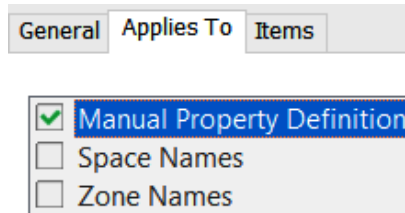

Figure 10.20 – List Definitions | Applies To tab
- With the new **Construction Sequencing** list selected, we'll hop over to the **Applies To** tab and check the box next to **Manual Property Definition** (refer to *Figure 10.20*). By checking this box, we will then be able to use this list for our **Manual\_PS** property definition.